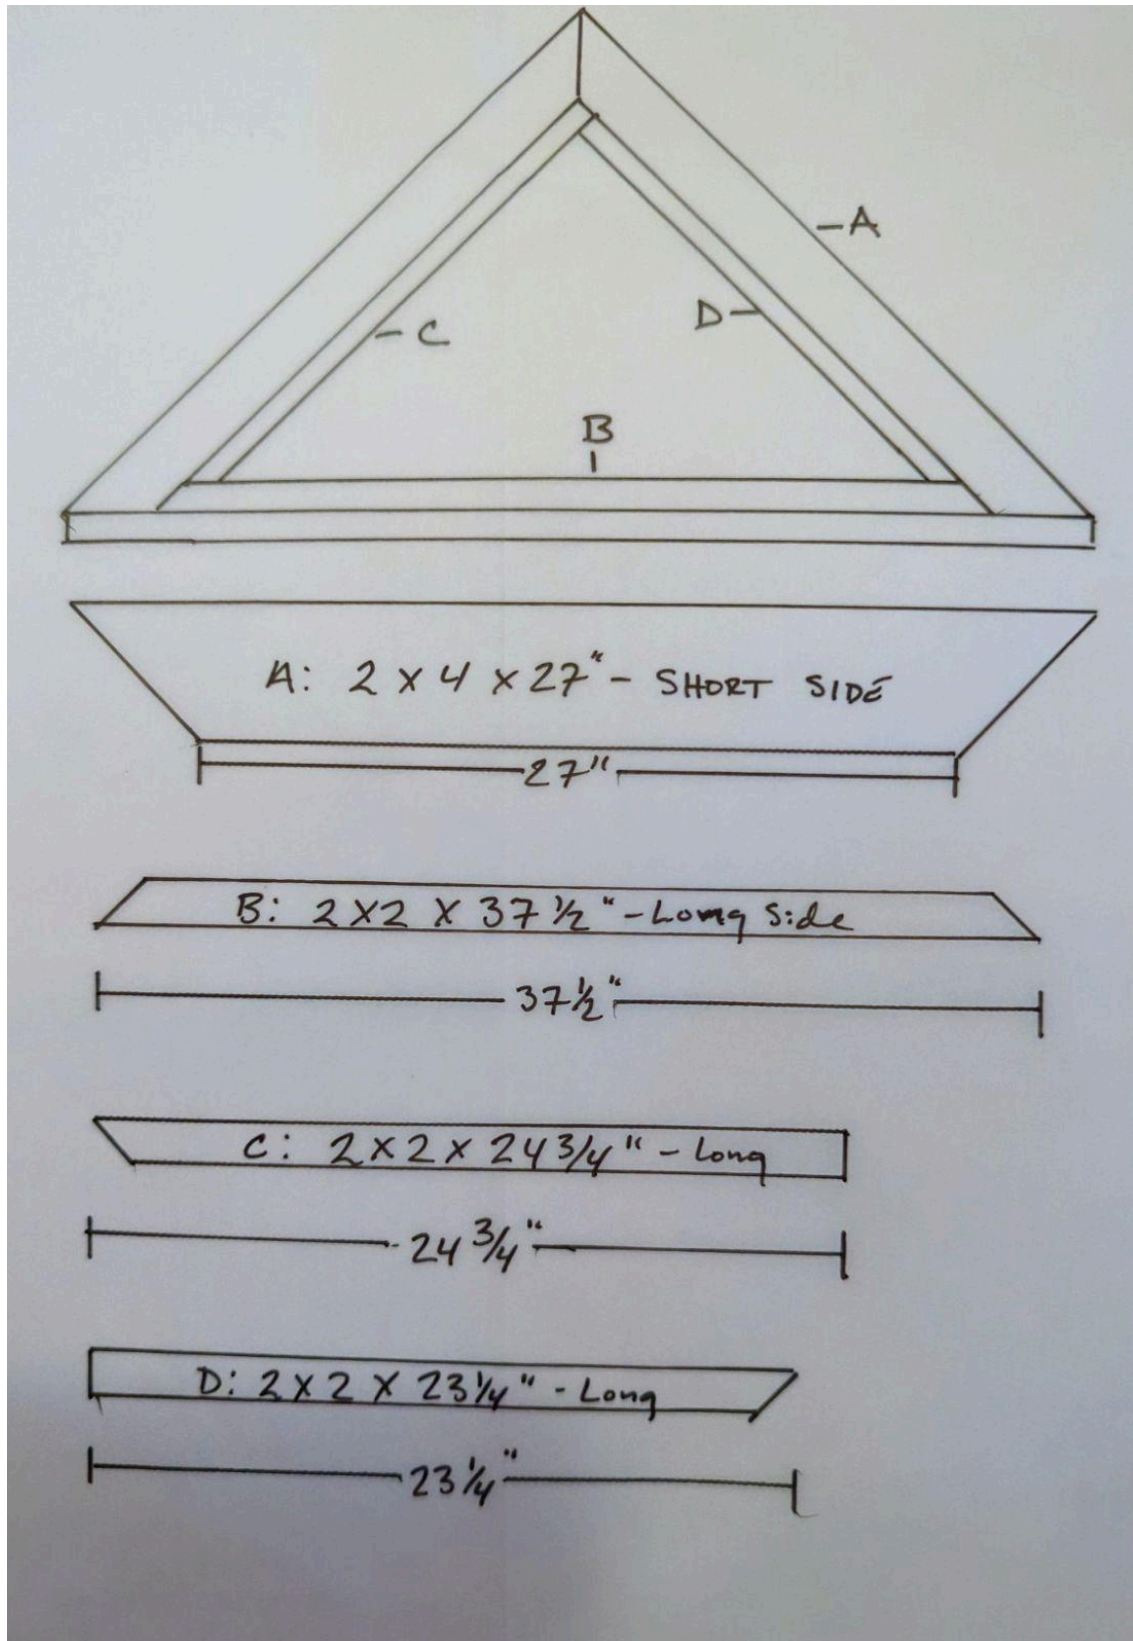

Figure 14
Step 4: Assemble the Roof (See Figure 14 Below)